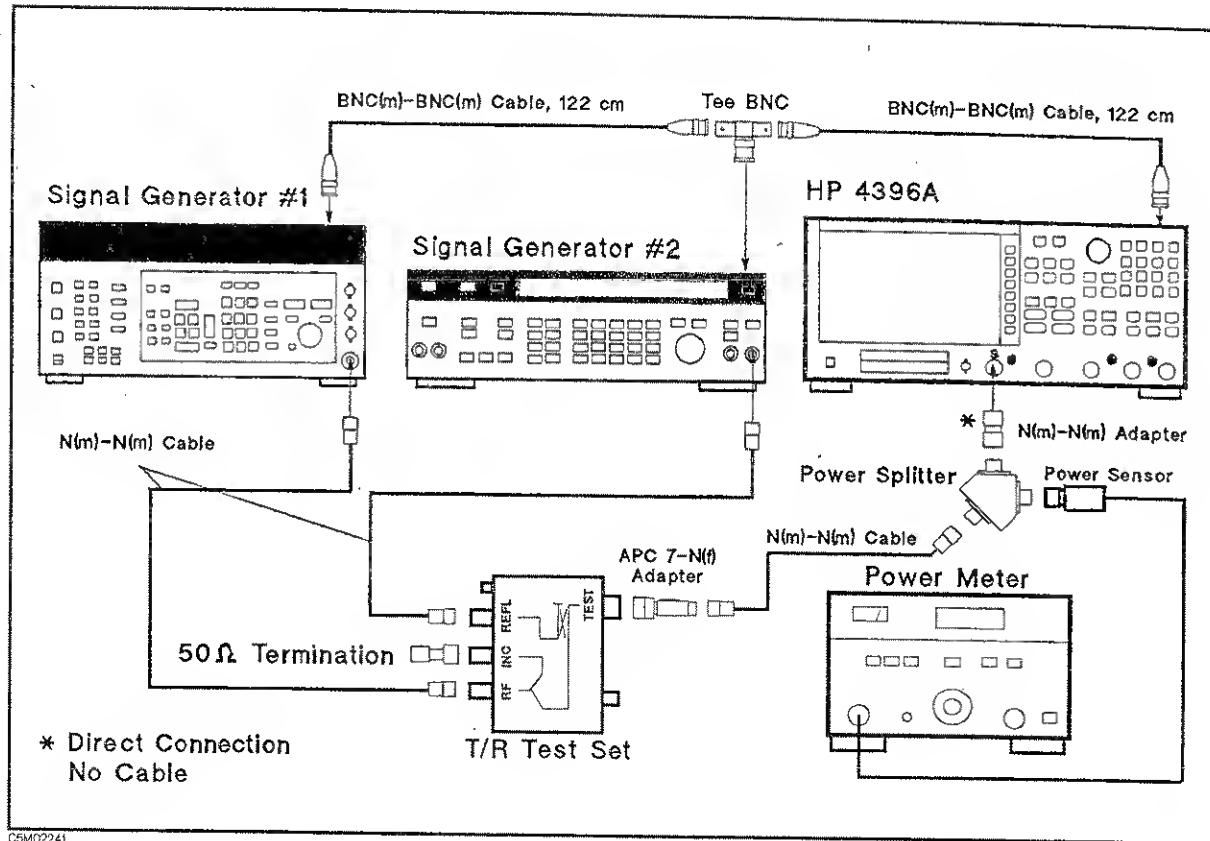

Figure 2-30. Third Order Intermodulation Distortion Test Setup
1. Connect the test equipment as shown in Figure 2-30.
Note	Connect the signal generator's 10 MHz frequency reference output to the HP 4396A EXT REF Input on the rear panel as shown in Figure 2-30. With this configuration, both the signal generator and the HP 4396A are phase locked to the same reference frequency to obtain a stable measurement.